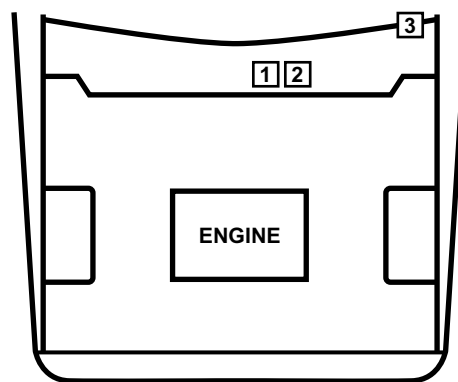

Figure 15-8 1995 Legacy, 1995 Impreza 2.2L and 1996-05 Subaru common connector locations
- “1995 Legacy, 1995 Impreza 2.2L and 1996-05 Subaru common connector locations” on page 170 (Table 15-8, Figure 15-8)